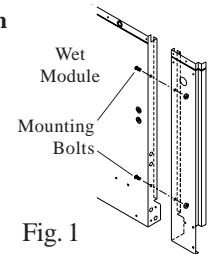

Fig. 1
**NOTE:** You can separate the wet module from the blower module by removing the 4 bolts (2 bolts in ADA35 and ASA35) from the wet module side (Fig. 1)